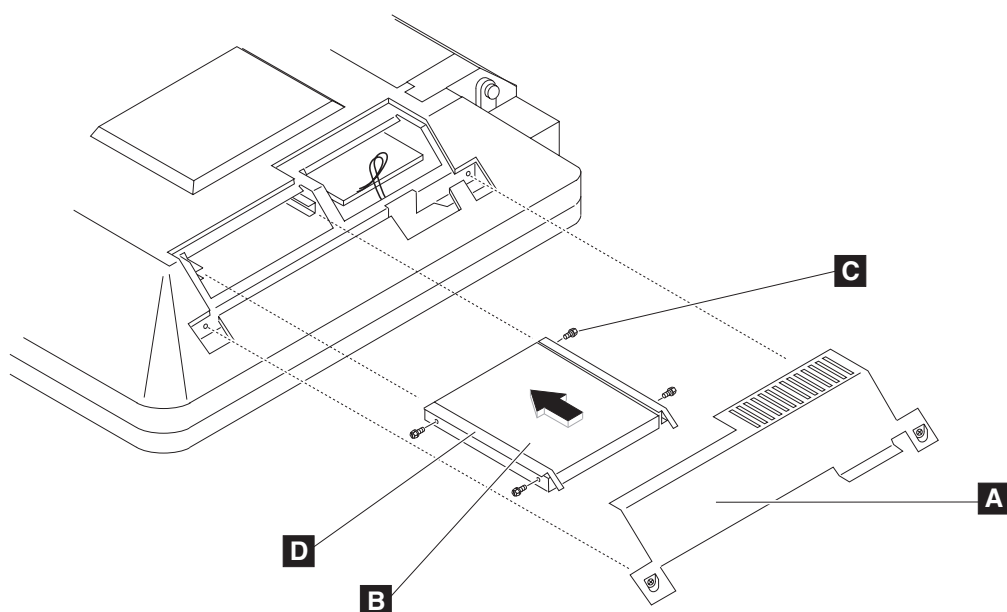

Figure 22. Removing the hard disk drive and bracket
1. Open the hard drive door (**A** in Figure 22).